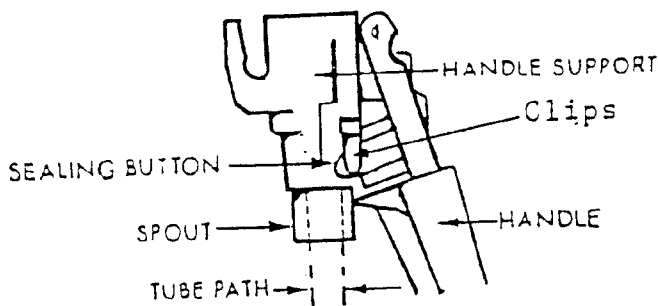

Fig. 1
1. Removing the Push Handles (see Fig. 1).